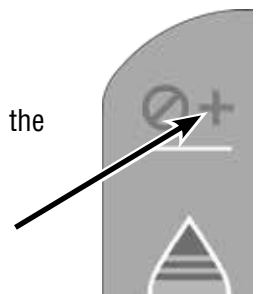

Figure 6
2. Dispense water from the STILL WATER lines by pressing & holding the "+" button (Figure 6), till the cloudy apperance dissipates and the water flows clear.